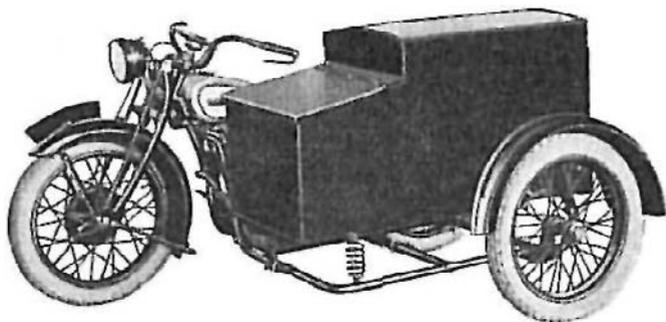

FIG. 43. "AIR MAIL" BOX SIDECAR
**Commercial Sidecars (C, X/3, X/R3, and B).** The same high quality of material and finish noticeable in the private sidecar bodies and chassis is here in evidence also. Fig. 43 illustrates a typical example. The illustration shows the well-known "Air-Mail" type, first introduced for carrying urgent mails between the G.P.O. and Croydon aerodrome. Shelves can be fitted to order in the rear part of the body. Another commercial type is a truck sidecar intended for the carriage of agricultural produce. It is also suitable for dairymen, since it will carry two chums. The normal load is 3 cwt. The body is 3 ft. 10 in. long and 2 ft. 2 in. wide. Besides the type illustrated there are five others which are modifications of this type. In short, a remarkably fine range of sidecars as well as solo machines is offered to the public at very moderate prices.